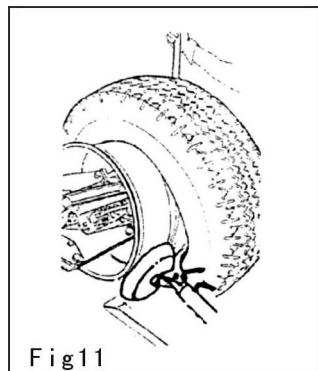

Fig11
7) Rotate the wheel counter clockwise till the edge of the tire completely come off from the rim as **Fig11**.